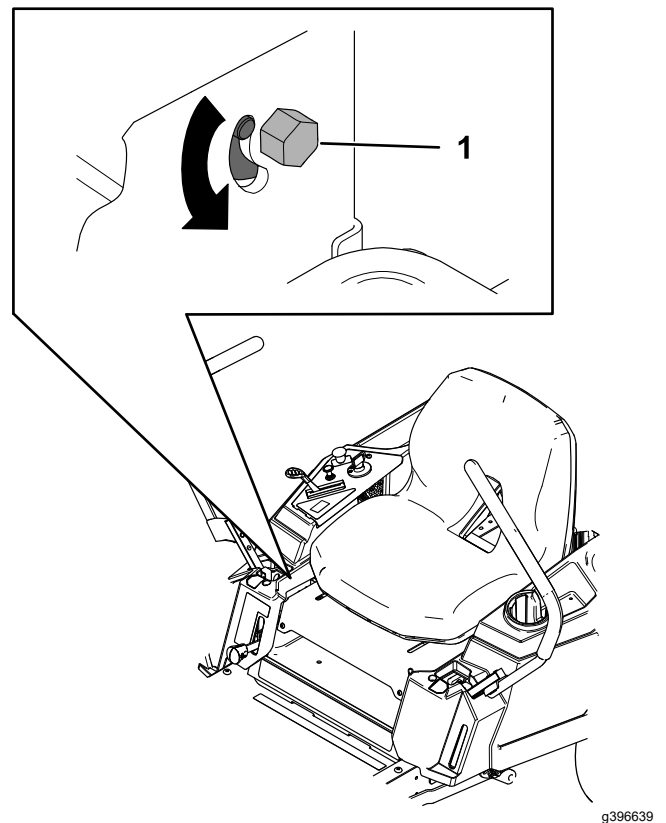

Figure 52
3. Locate the tracking-adjustment bolt near the motion-control lever on the particular side that needs adjusting (Figure 52).